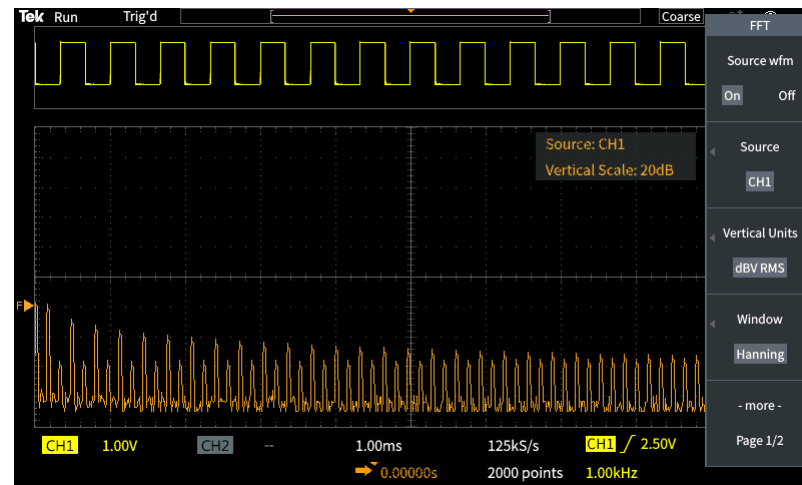

Figure 15. FFT Menu
3. Press the **FFT** button for FFT function on the front panel (Figure 15).